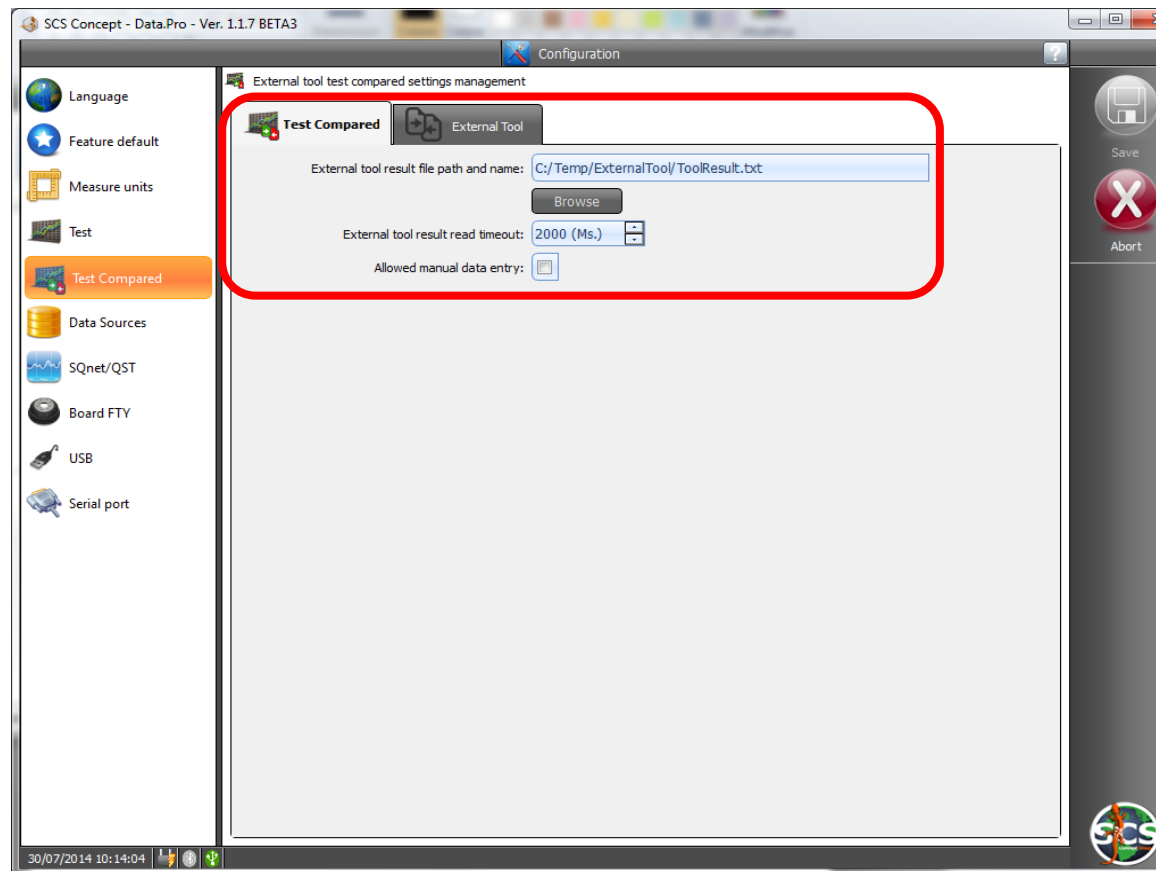

Figure 18
- in the Data.Pro **Configuration** functionality is now present the section **Test Compared** (See **Figure 18**). By this user interface is possible: